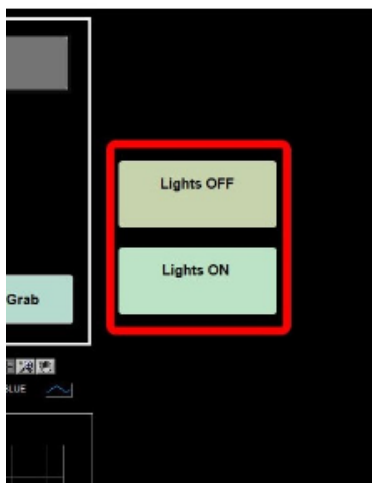

Figure 9. Software commands to turn the Lights on or off.
3. Click **Lights OFF** (Figure 9). Remember we want to keep the temperature below 39°C. Use the LED read out of the light's temperature located above the camera.